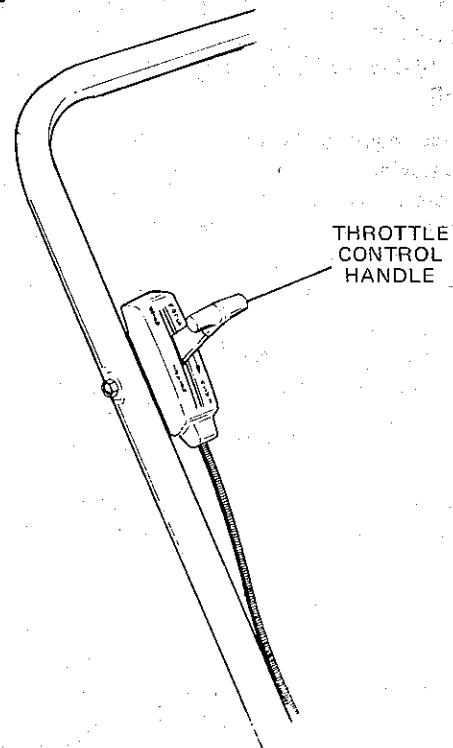

Figure 4
1. Check throttle control adjustment. Place throttle control handle (Figure 4) rearward to STOP position and forward to START position.
2. Set controls. Move the throttle control handle forward to the START position (Figure 4) and replace the spark plug wire. Be sure spark plug contacts are clean.
- c. If engine does not start, it may be flooded. Move throttle control handle (Figure 4) rearward to **STOP** position, and pull starter six times. Move throttle control handle forward to **START** position again and start engine. If engine still does not start, refer to Adjustments section of this manual for carburetor needle valve adjustment.
1. **Engine speed.** The throttle control handle (Figure 4) may be set anywhere in the mow range to suit varying mowing conditions. For mowing, average engine speed is from three-quarters to full. For cleaning leaves or bagging litter, run at full speed for greater blowing action.
Allow engine to operate at slow speed a few minutes before completely stopping. Move the throttle control handle (Figure 4) rearward to the **STOP** position. Remove spark plug wire from spark plug.